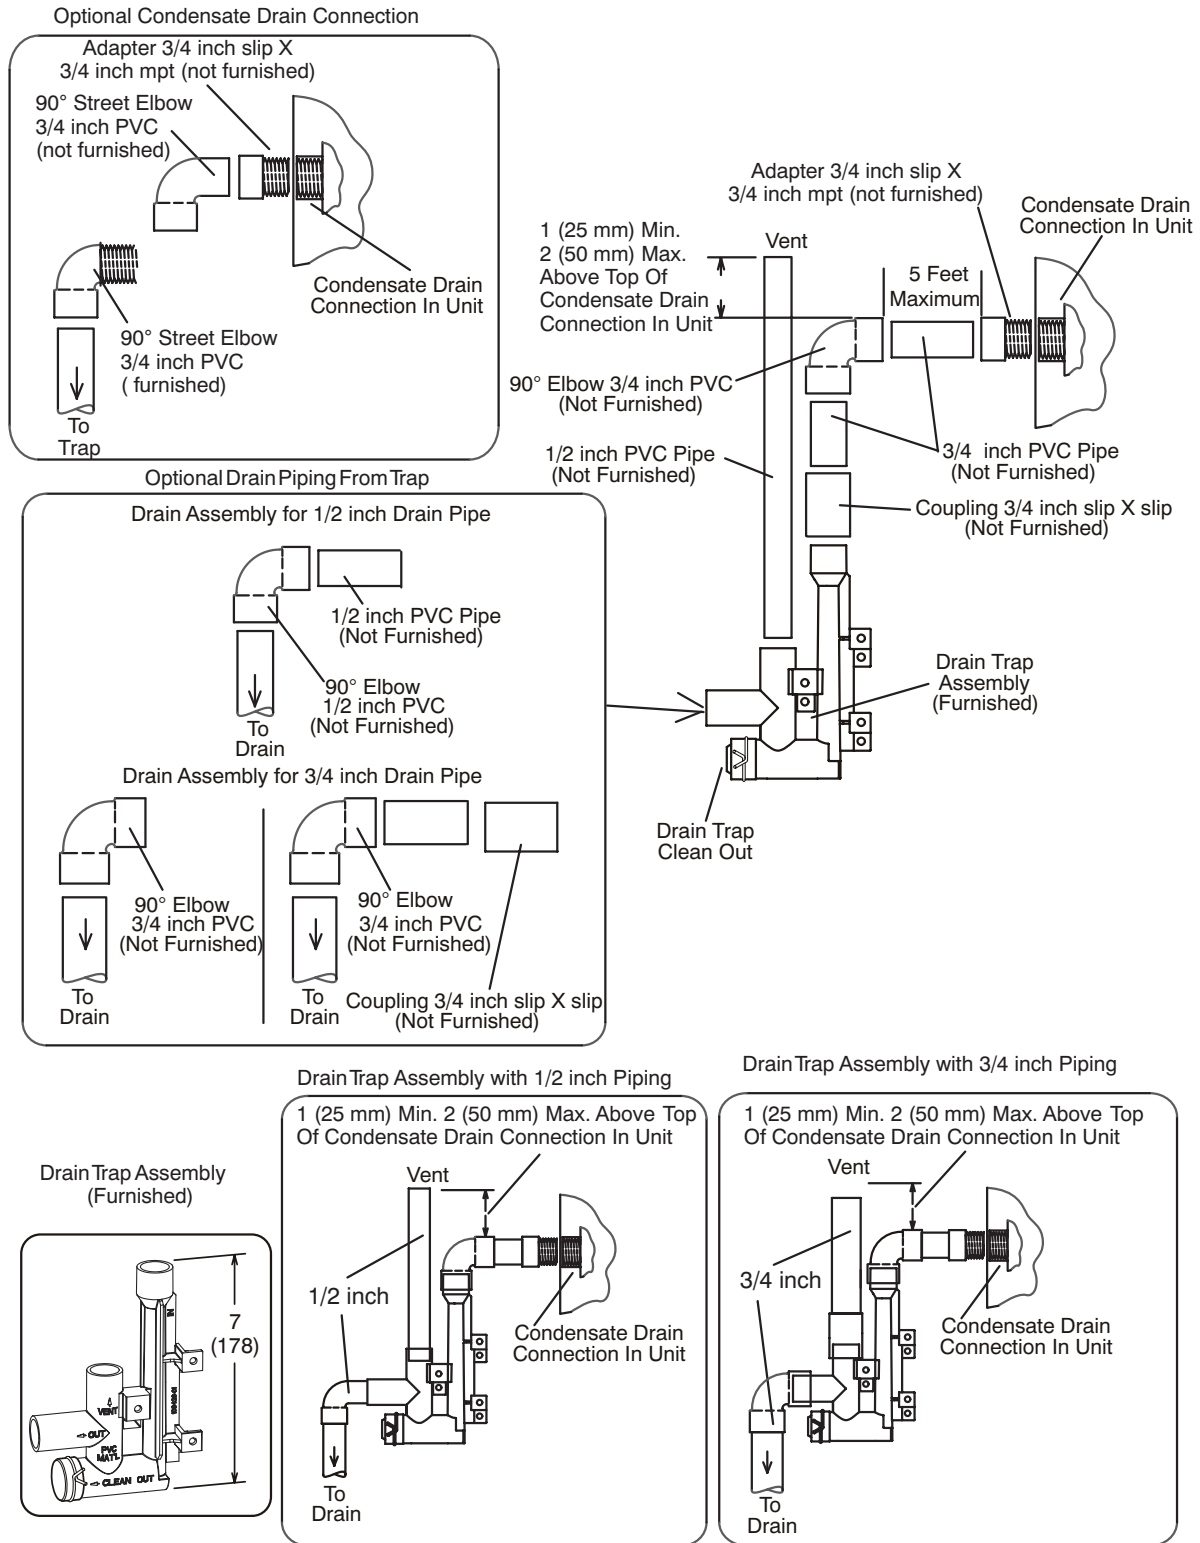

FIGURE 54
- 3 - Install the cap over the clean out opening at the base of the trap. Secure with clamp. See FIGURE 54.
- 4 - Install drain trap using appropriate PVC fittings, glue all joints. Glue the provided drain trap as shown in FIGURE 54. Route the condensate line to an open drain.